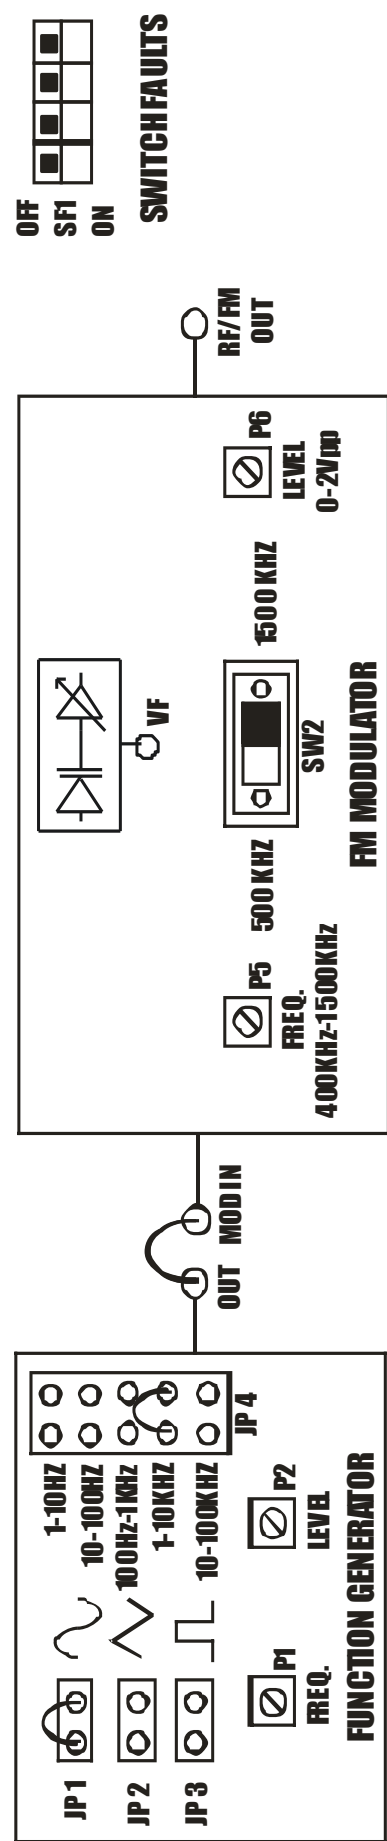

FIG. 1.9 BLOCK DIAGRAM FOR STUDY OF VARACTOR MODULATOR
- Switch ON the power supply and Carry out the following presetting as shown in FIG. 1.9.
- Refer to the FIG.1.9 & Carry out the following connections.